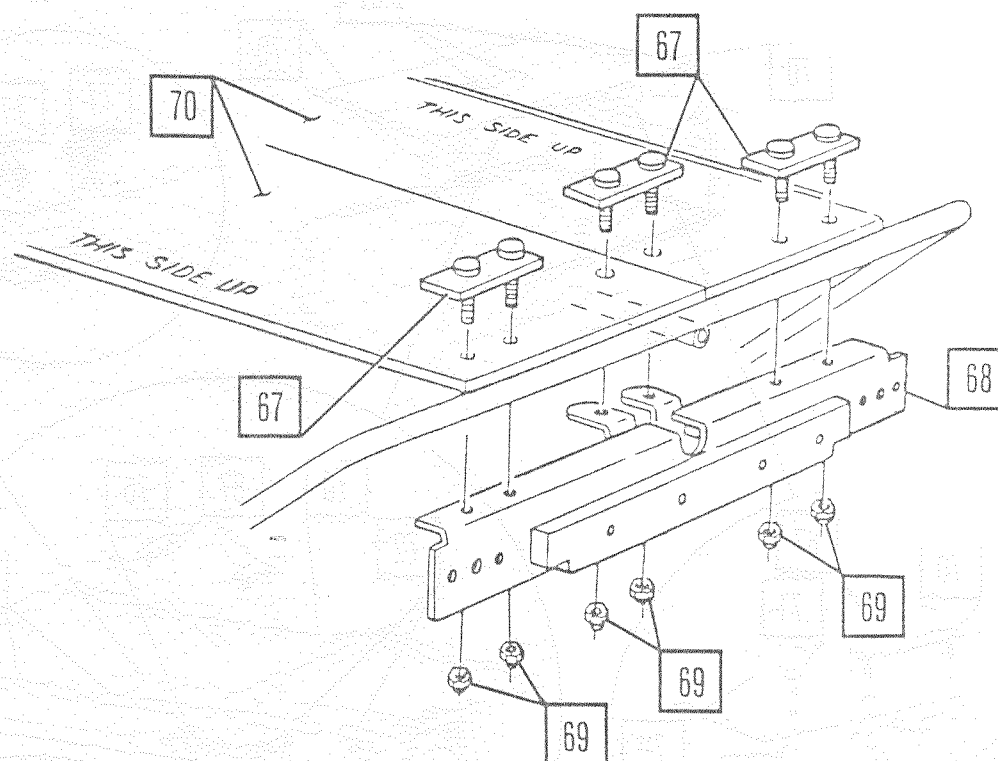

Figure 17.
59. Position two roof panels with note "THIS SIDE UP" on top of bow assemblies and center right to left (Figure 17.).
60. Attach rear panel assembly to roof panels with three plate assemblies and loosely install nuts (Figure 17.).